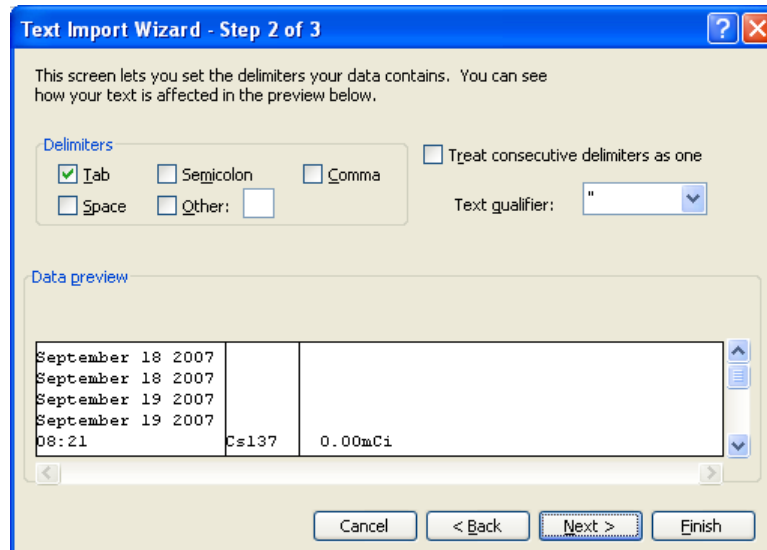

Figure 24
2. Verify that the Delimited radio button is selected and the File orin: drop-down box is set to *Windows (ANSI)*. Click the Next> button. Figure 24 will appear.